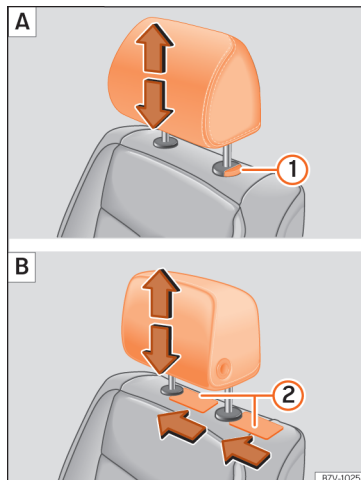

Fig. 133 A: Fitting the headrests with no possibility of lengthways direction adjustment; B: Fitting the headrests with lengthways direction adjustment
- Pull out the headrest by pressing the button completely » » » **Fig. 133** **A** **①**.
- To refit, insert the headrest into the holes in the backrest, pushing it down until it engages, while pressing button **①**.
- Place a flat object, e.g. a plastic card » » » **Fig. 133** **B** **②**, on both sides between the seat backrest cover and the end protector of